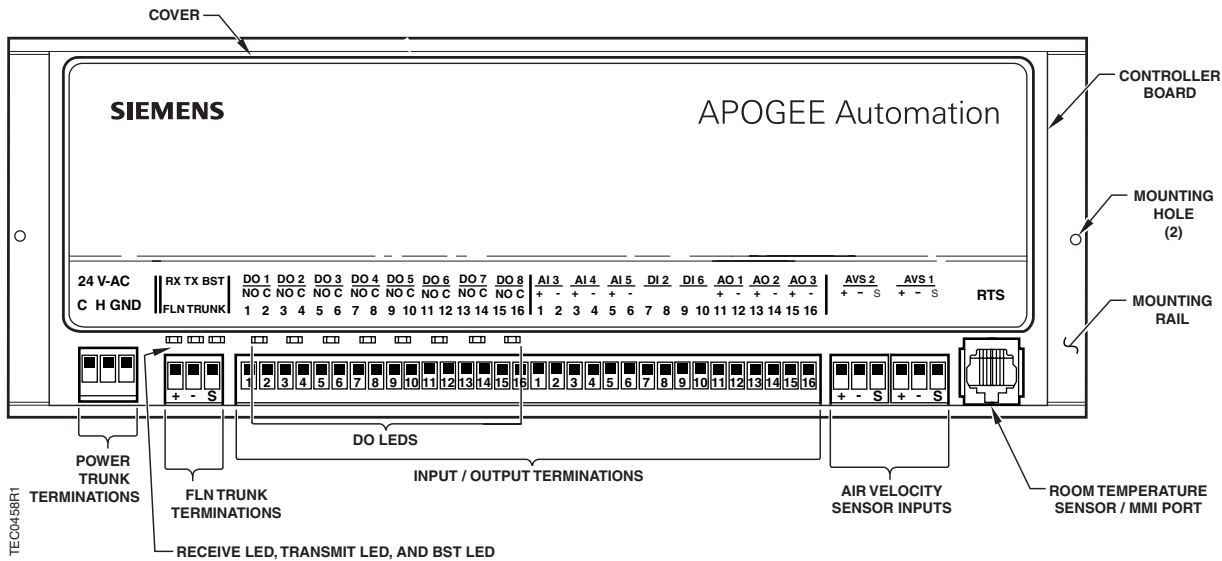

Figure 1. LRC Electronic with BTU Compensation on OAVS.
1. Using the mounting rail as a template (Figure 1), mark the screw holes where you will install the LRC.
9. Plug the room temperature sensor cable into the RTS port on the controller (Figure 1).